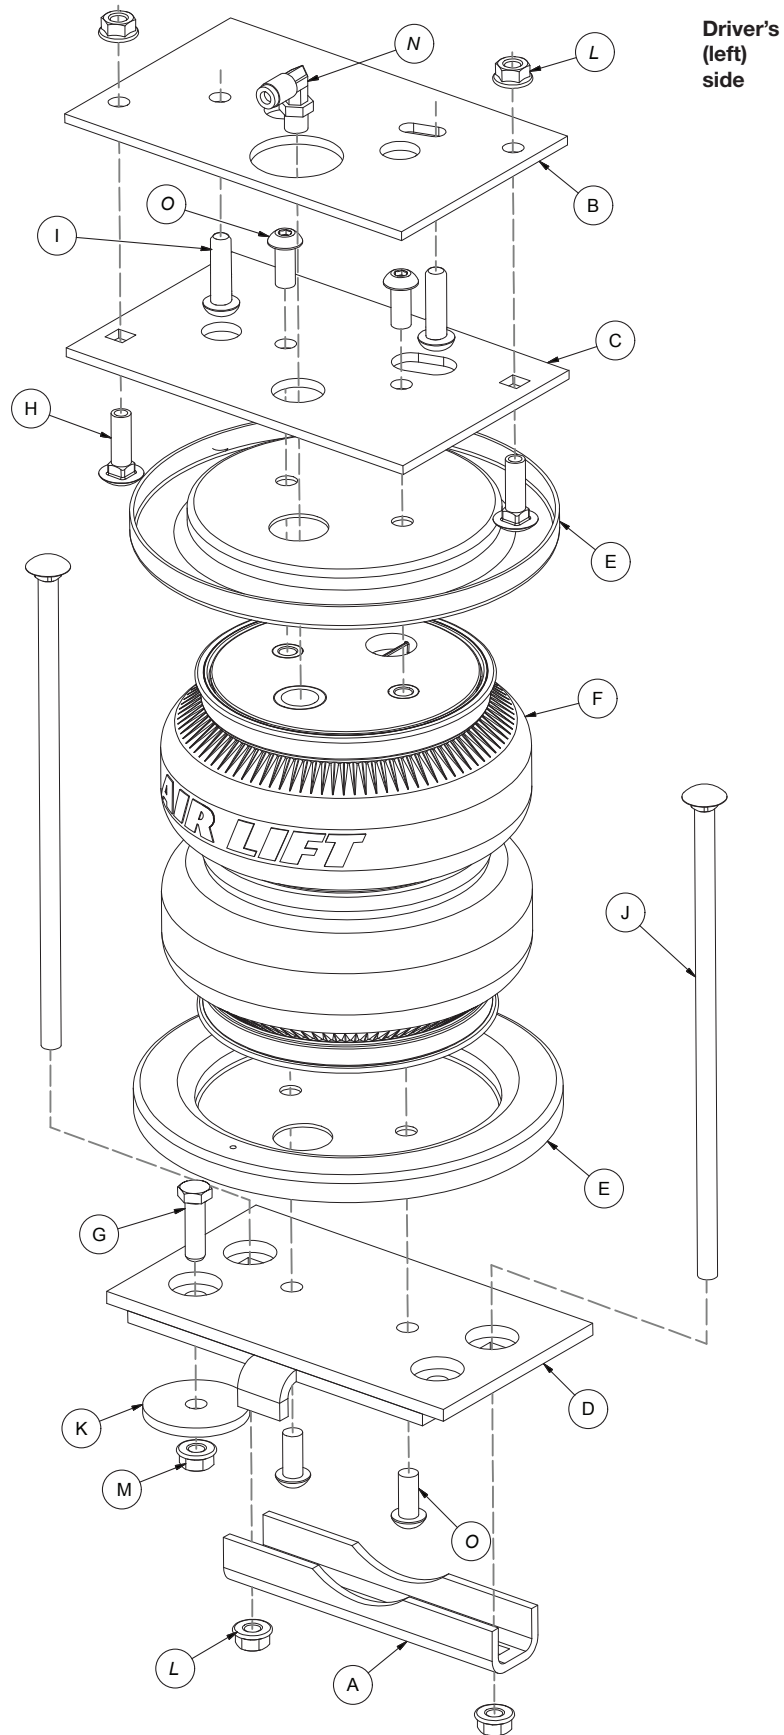

fig. 1
3. Insert the 3/8"-16 x 1 1/4" carriage bolt (H) through the upper air spring bracket (C) in the square hole on both ends (Figs. 1 & 11).